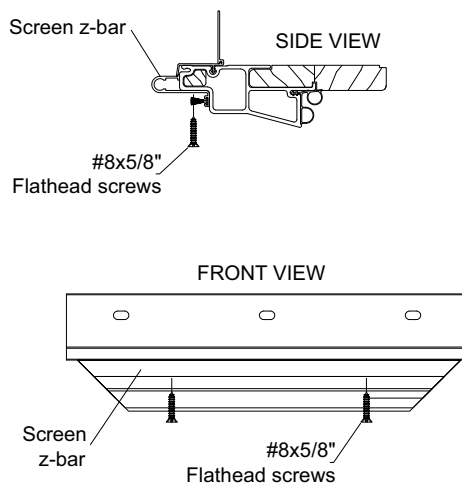

Figure 1
1. Position the head jamb screen z-bar along the head jamb and center left to right in the opening. Using the pre-punched holes in the z-bar as a template, drill a 7/64" (3) hole in the door head jamb near the center. Drill only through the first Ultrex wall. Secure the z-bar with #8 x 5/8" mounting screws as shown in figure 1. Repeat this procedure for the remaining screw holes.